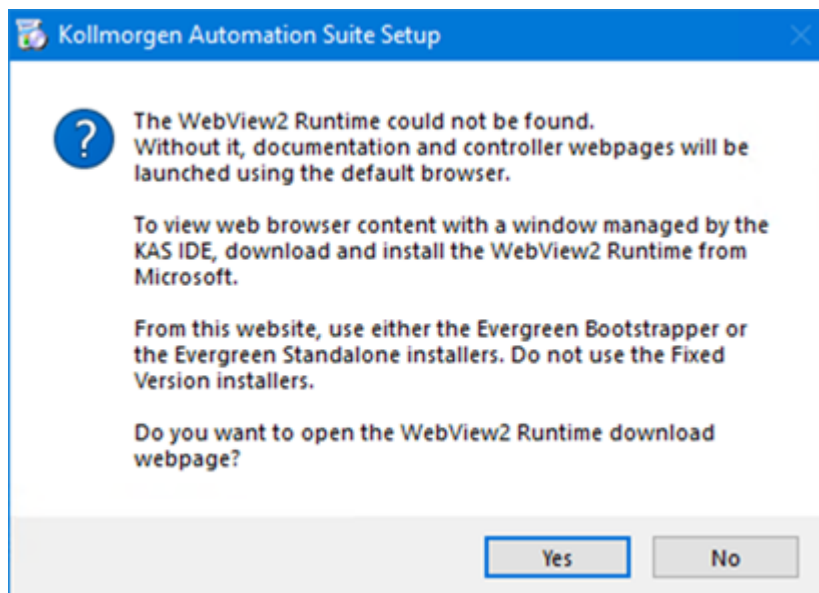

Figure 2-8: WebView2 Confirmation message
- a. If WebView2 is **not** installed, the Figure 2-8 message appears.